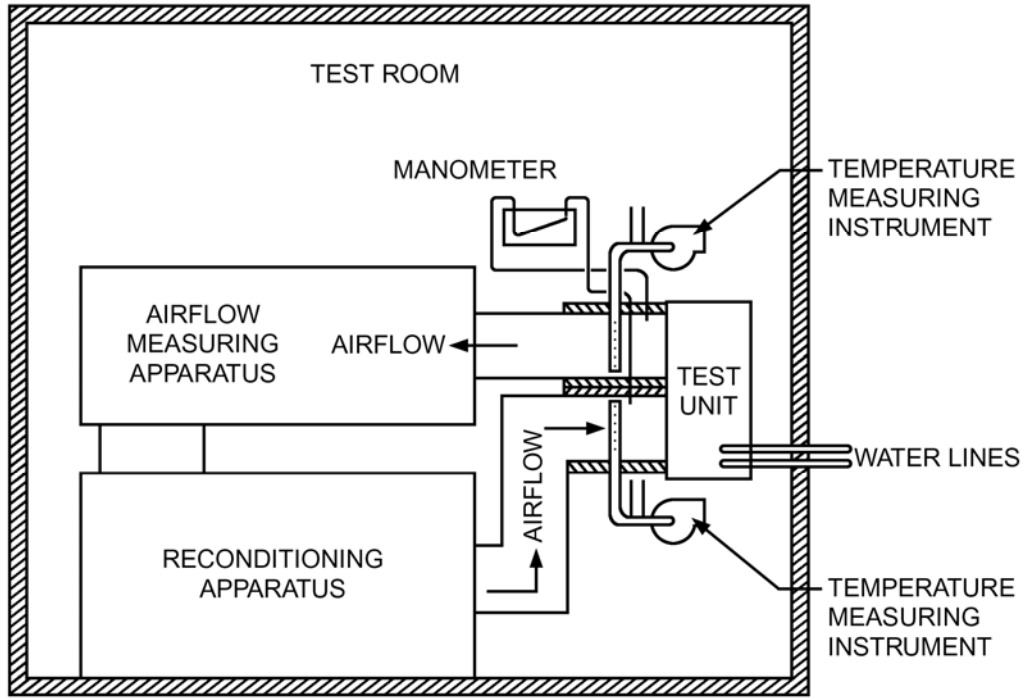

Figure 3b Loop air-enthalpy test method arrangement.
- 6**      **Figure 3b Loop air-enthalpy test method arrangement.** Replace the current figure with the one shown below.